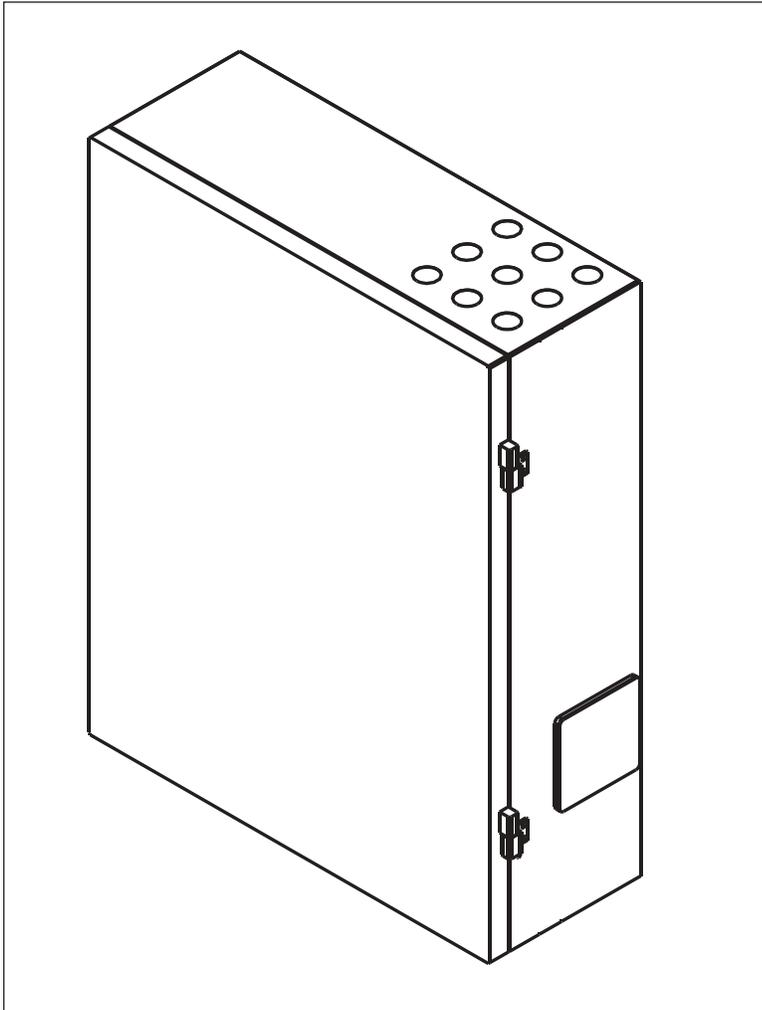

Figure 1
- 1.1 This document describes the installation of an Optical Splice Enclosure (OSE-1440-BA) manufactured by Corning Cable Systems (Figure 1).